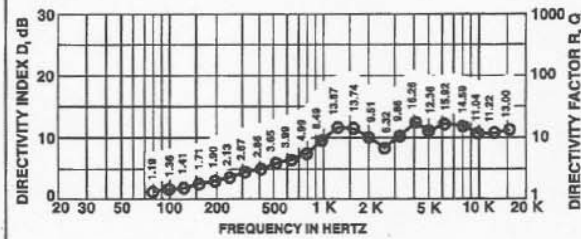

FIGURE 5—DMC-1122X/DMS-1122/85
Directivity Factor, R (Q), 1,200-16,000 Hz Average (see Figure 5):
Directivity Index, D_p, 1,200-16,000 Hz Average (see Figure 5):